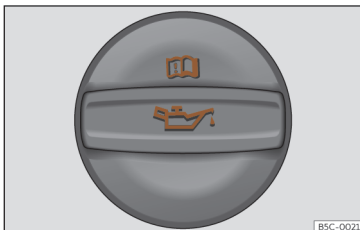

Fig. 215 In the engine compartment: Engine oil filler cap.
- Unscrew cap from engine oil filler opening >>> Fig. 215.